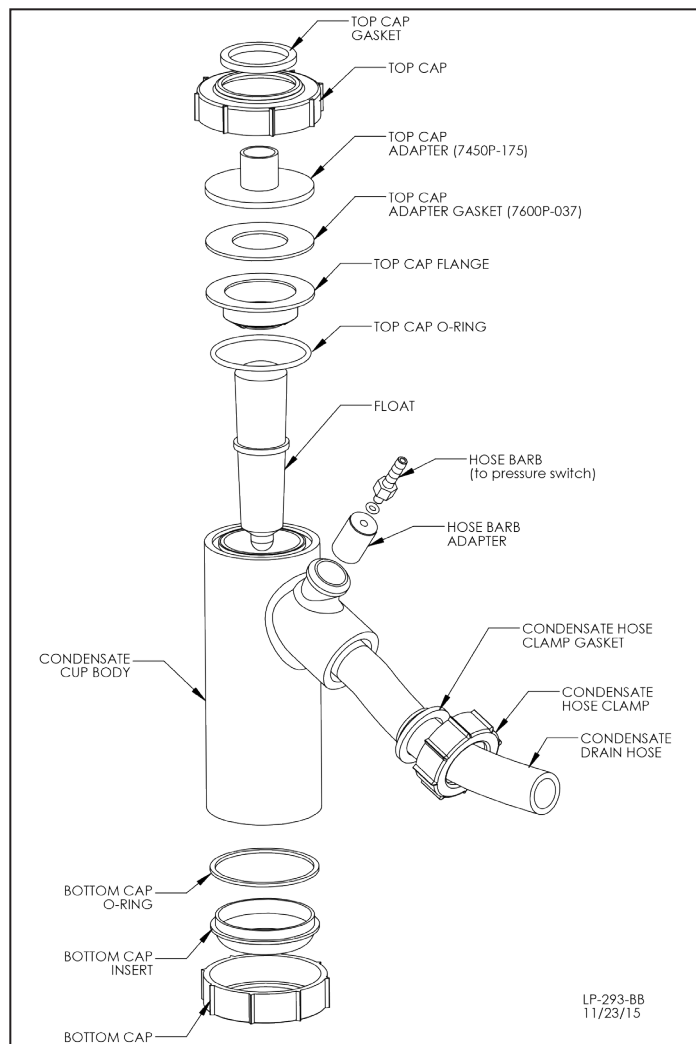

Figure 29 - Condensate Detail
- NOTE:** Ensure all parts shown in Figure 29, Condensate Detail, are installed with the condensate trap. If any parts are missing, DO NOT reinstall the trap. Replace the entire assembly.